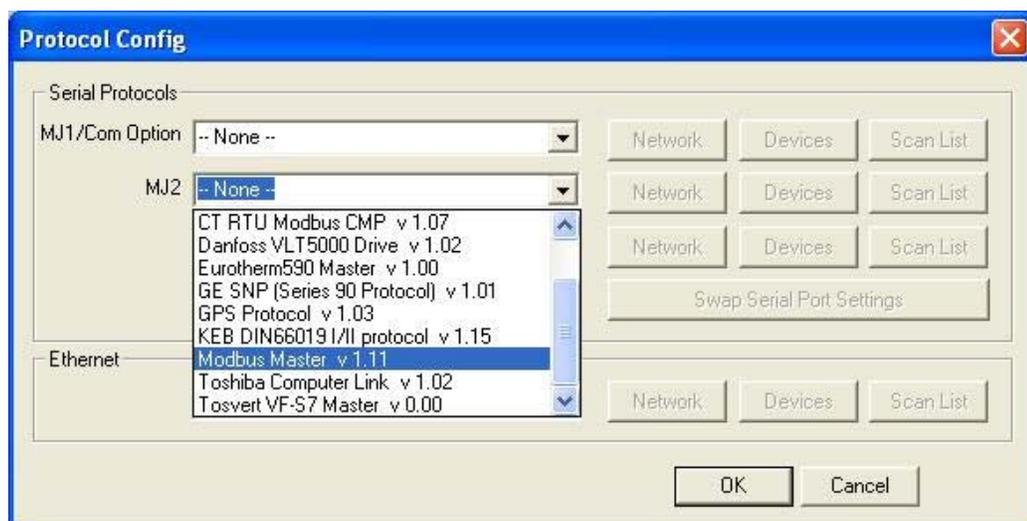

Fig.2
3. Select **Modbus Master** protocol from the dropdown list (Fig.2)